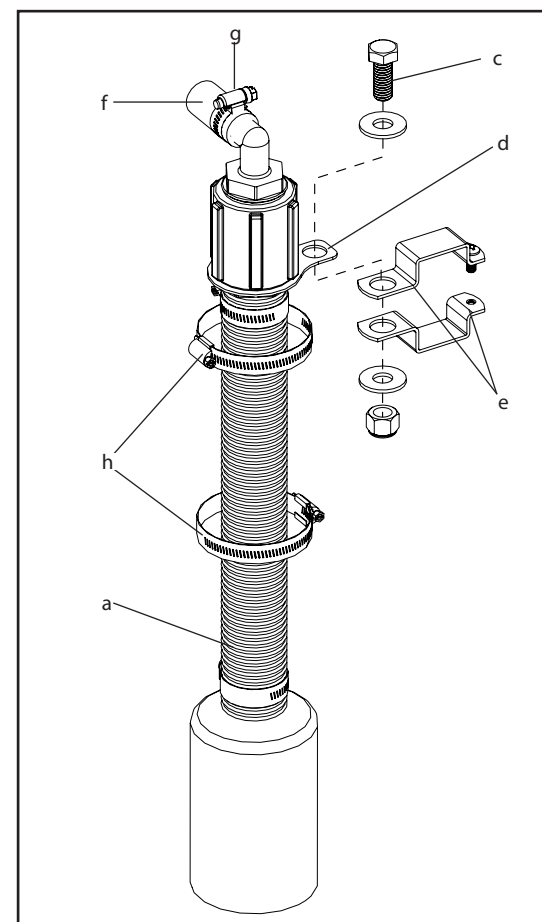

Figure 4: Discharge Tube
1. The discharge tubes (a) dispense the foam and should be mounted in the desired foaming position. Generally, they are mounted at the end of a sprayer boom or at the ends of a no-till drill (Figure 4).
2. The discharge tube should be mounted using the 1/2" bolt (c) through the mounting bracket (d) (Figure 4).
3. If you are mounting the tube on a sprayer, a standard nozzle body clamp (e) can be used. Simply mount the clamp on the sprayer's boom and insert the 1/2" bolt through the hole where a nozzle body would normally be inserted and place a flat washer on either side of the clamp as shown (Figure 4).
4. One 50' length of 3/4" discharge hose is included and may be cut as needed. Attach the 3/4" hose (f) to the mixing chambers and route to the discharge tubes. Clamp all ends with the included stainless hose clamps (g) and secure the hose with the included cable ties (Figure 4).